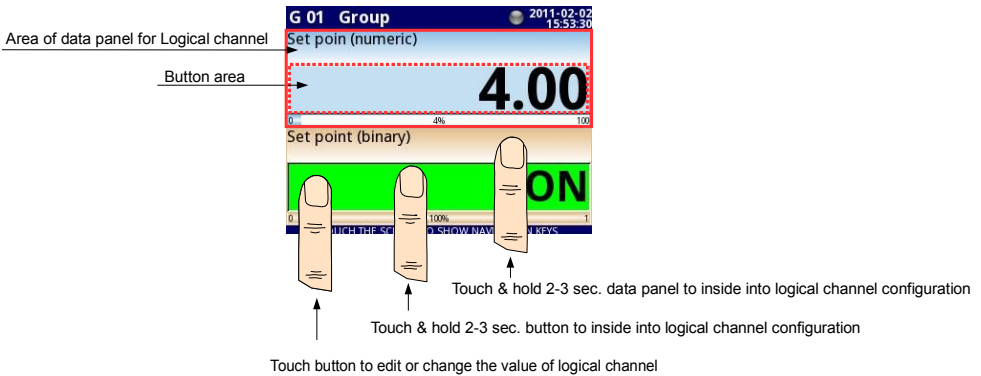

Fig. 7.49. Data panels for Logical channel in **Set point value** mode
- **Edit button** - this parameter allows you to activate the button in the panel data (see **Fig. 7.49**), this parameter has two options: